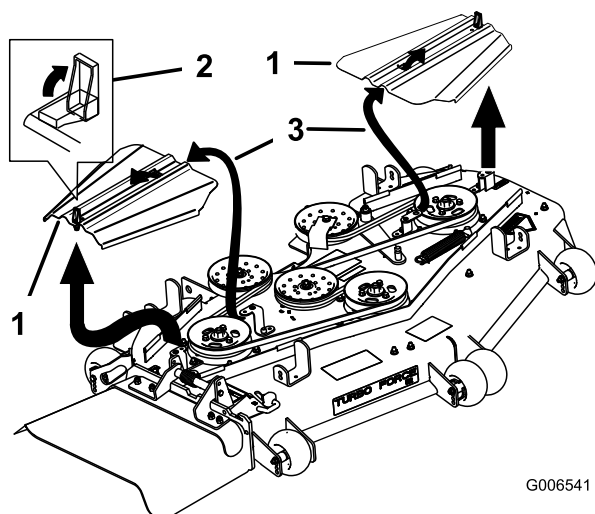

Figure 65
3. Remove the belt covers (Figure 65).